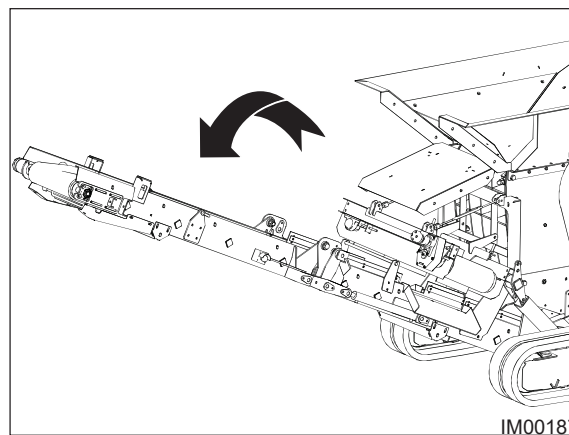

Fig: 7.6 - Conveyor Working Position
7. Release the conveyor unfold button, when the conveyor reaches the working position (Fig: 7.6).